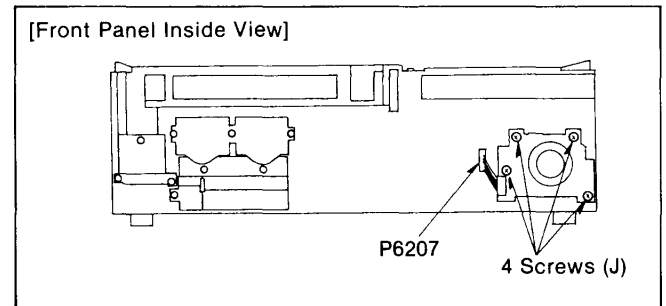

Figure D10
1. Unscrew the 4 screws (J) on the Search Dial Unit and pull out the connector P6207 (Figure D10).